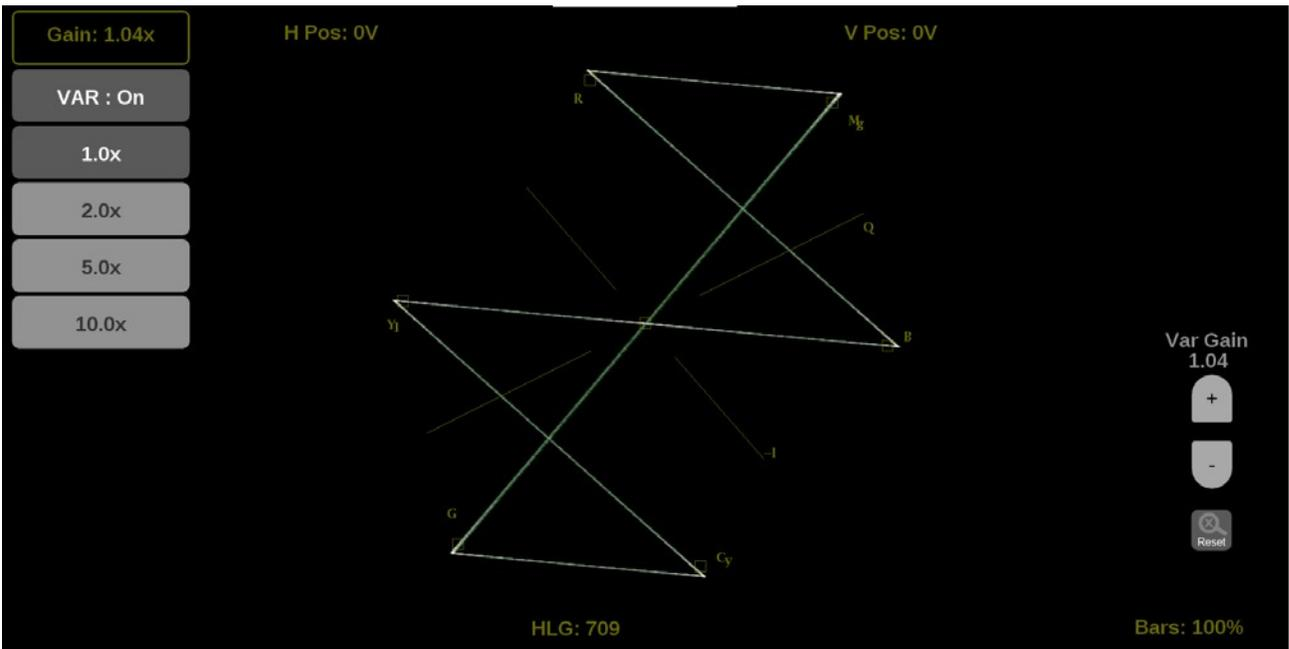

Figure 96: Vector on-screen tools – Gain
1. Select the **Gain** button to expand the available magnification options drop down list. (See Figure 96.)